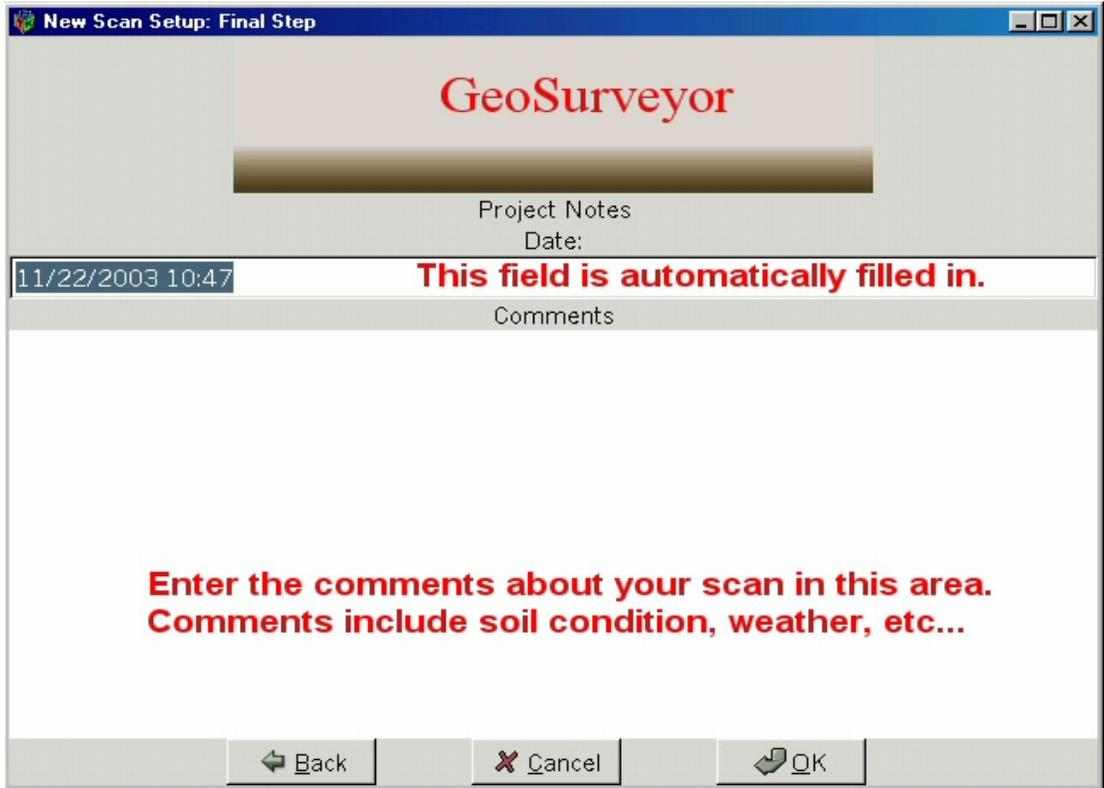

Figure 4.2
11. The next dialog box (Figure 4.2) is for comments about the scan that is going to be taken. Comments that are typically entered include weather, soil condition, adverse terrain, location of scan, etc... Once completed with the comments, which of course, can be entered after completing the scan as well, click on the “Next” button.
11. The next dialog box (Figure4.2) is for comments about the scan that is going to be taken. Comments that are typically entered include weather, soil condition, adverse terrain, location of scan, etc... Once completed with the comments, which of course, can be entered after completing the scan as well, click on the “Next” button.